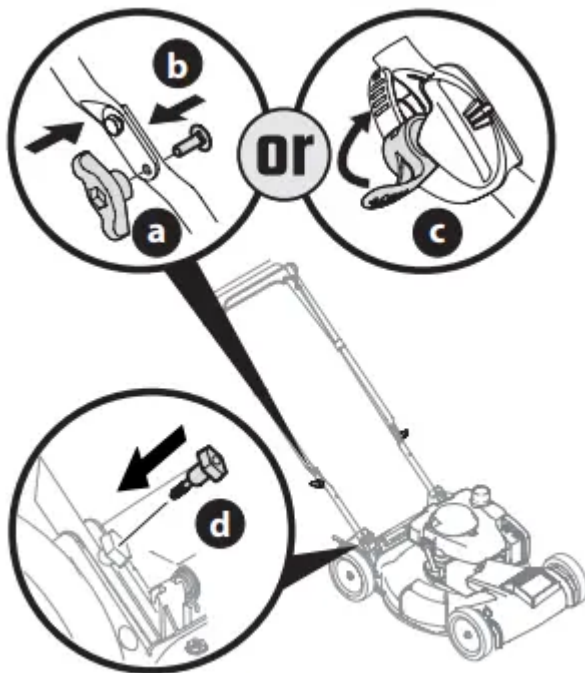

Figure 4
6. Insert the T-bolts (d) removed in STEP 4 through the handle brackets and lower handle (Figure 4) and tighten securely to secure the handle in place.